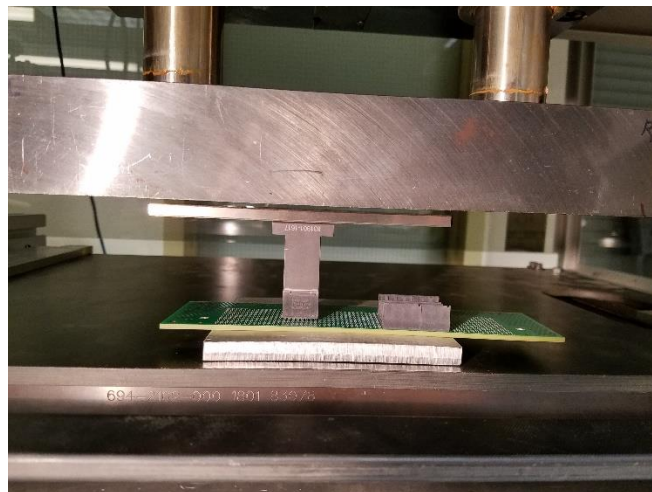

Figure 7: Proper BMA pressing set up
Step 9. Carefully place the connector and load head directly under the press anvil. (See Figure 7)